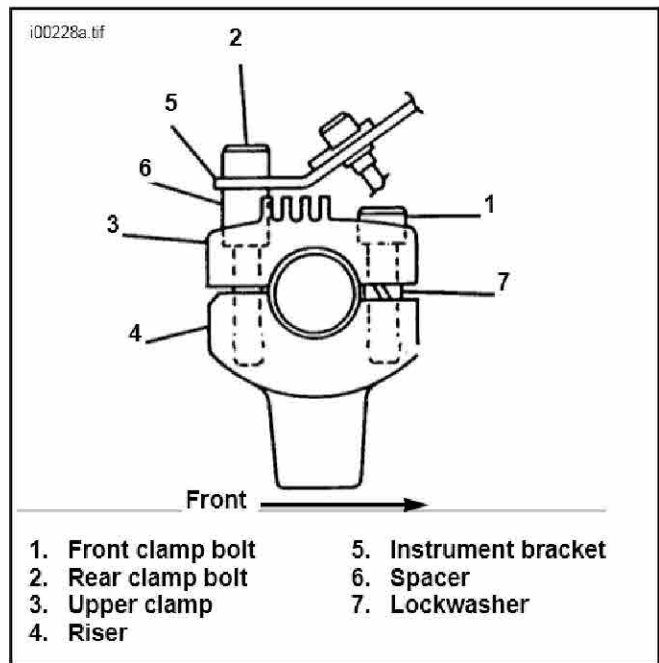
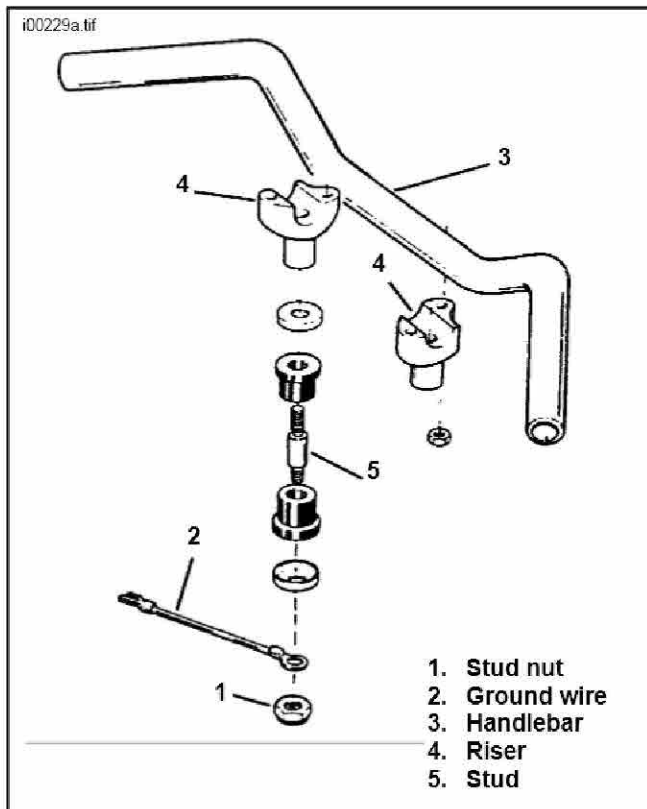

Figure 4. Instrument Bracket Mounting (Dual Instrument Mounting Bracket Shown)
Figure 5. Handlebar Clamp Assembly
1. See Figure 4. Remove the front and rear handlebar clamp bolts (1 and 2). Remove speedometer bracket (5), spacers (6) and upper clamp (3),
2. See Figure 5. Remove the two riser stud nuts (1) and, on 1992 and 1993 models, the ground wire (2), at the underside of the upper fork bracket and move the handlebar (3) clear of risers (4). Lift up the risers with studs (5).
- See Figure 5. Exchange the position of the two risers (left riser to the right and right riser to the left). Loosely thread on the riser stud nuts. On 1992 and 1993 models, be sure to install ground wire.
- See Figure 4. Mount the handlebar on risers (4) and position the upper handlebar clamp in alignment with holes in the risers (wide spaced holes at the rear of the handlebar).
- Place lockwasher (7) between upper clamp (3) and riser under front clamp bolts.
- Insert shorter clamp bolt (1) through upper clamp (3), lockwasher (7) and riser (4). Install front clamp bolts (1) and torque to 12 - 15 ft-lbs.
- See Figure 4. Place the tachometer and dual instrument bracket (5) in position over the rear holes in upper clamp (3). Place a spacer (6) under the bracket and over each rear hole in handlebar riser (4). Insert longer bolt (2) through bracket (5), spacer (6), upper clamp (3) and riser (4). Install rear clamp bolts (1) finger tight.
- Be sure handlebar and risers are aligned and tighten clamp bolts (2) to 12-15 ft-lbs.
- See Figure 5. Tighten riser stud nuts (1) to 25-30 ft-lbs.
- See Figure 4. Install bezel in new bracket. Place indicator lights and wires in bezel.